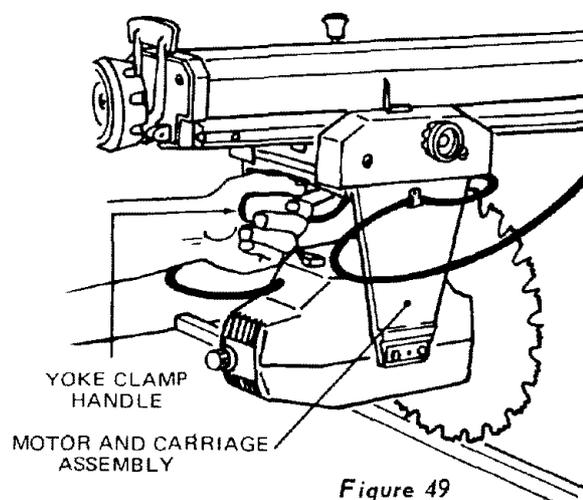

Figure 49
(4) After completing this adjustment, set the bevel indicator to zero.
k. Adjusting Carriage Bearings (Figs. 49 through 52).
To test for looseness between the carriage bearings and the tracks on the radial arm, lock the yoke-clamp handle (figure 49), grasp the motor and carriage assembly firmly with both hands, and apply a firm rocking motion. If looseness exists, perform the following steps :